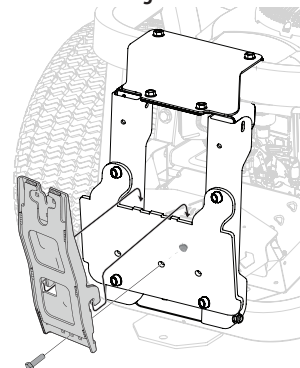

Figure 10
- Install the vertical bagger support (683-04519C) onto the mounting assembly on the tractor by hooking it over the mounting assembly, as shown in Figure 10.
- Secure the vertical bagger support to the mounting assembly using a hex bolt (710-06154B) from hardware pack 689-02619. See Figure 10.